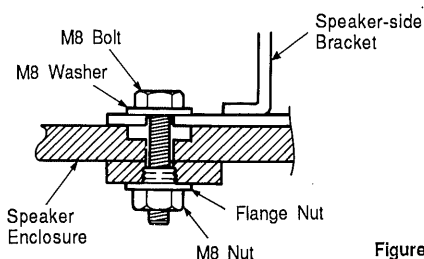

Figure 2
- The speaker-side bracket requires two (2) M8 bolts and two (2) M8 washers. (When using enclosures as shown in Figure 2, two (2) M8 nuts must be provided as well.)
- For wooden speaker enclosures, if it is possible to open the enclosure, use double M8 nuts and the included flange nut to firmly secure the assembly. (Figure 2)